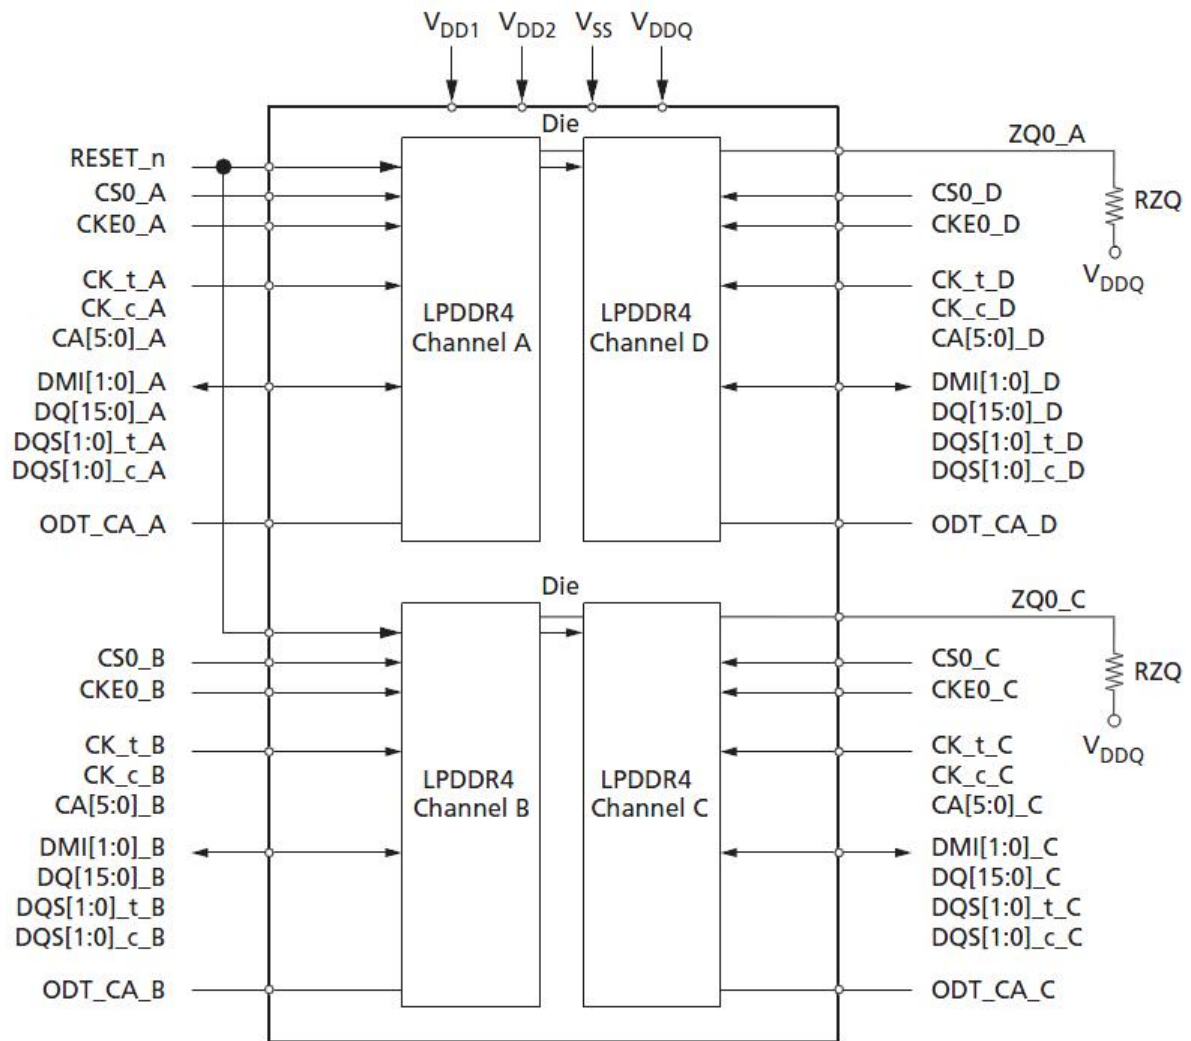

Figure 4-11 LPDDR4 SDRAM Block Diagram
- One LPDDR4 SDRAM has four 16 bits channels; two channels share a ZQ pin, shown as Figure 4-11. In the design, only the A and B channel or C and D channel can be respectively combined as a 32bits channel, and connected respectively to the RK3399 two 32bits DDR controller.